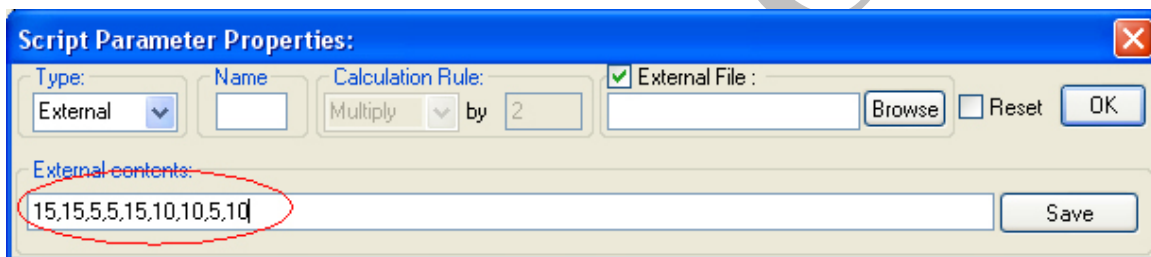

Figure 14: The Loads that are desired for this example to generate the grid shown in Figure 15.
- v. Enter the desired loads in the toolbar as shown in Figure 14.